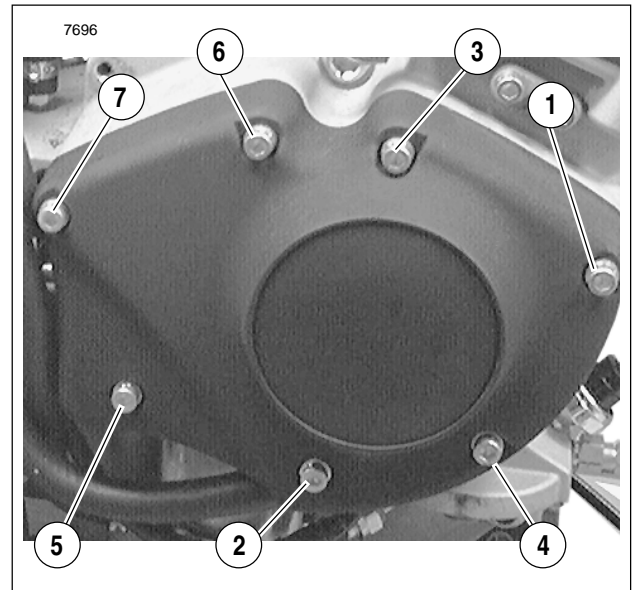

Figure 3-112. Gearcase Cover Mounting Screw Torque Sequence
5. See Figure 3-112. Install gearcase cover over all gears and onto right crankcase half. Secure cover to crankcase half with 7 socket head screws. Tighten screws evenly to 80-110 **in-lbs** (9.0-12.4 Nm). Use torque sequence as shown in Figure 3-112.